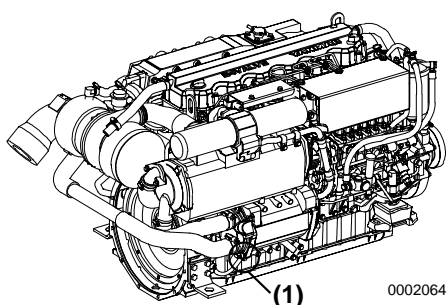
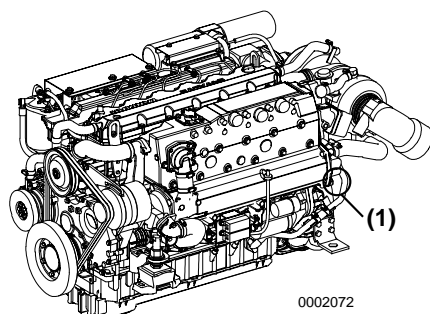

Figure 1
Figure 2
1. Loosen the seawater drain cocks (**Figure 1, (1)**), (**Figure 2, (1)**) and drain the seawater.